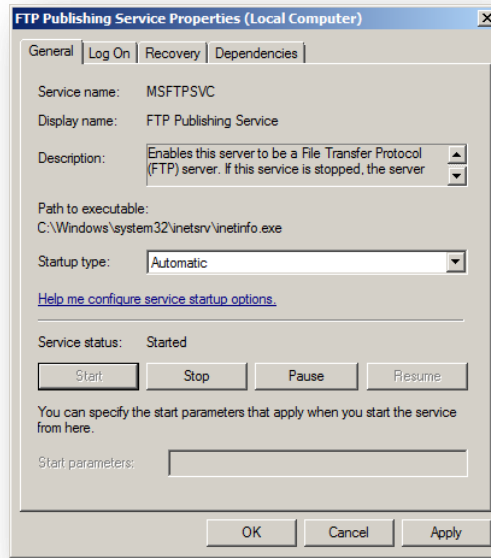

Figure 12 – FTP Publishing Service Properties
- Verify that the FTP Publishing Service Properties window resembles Figure 12 and click **OK**.